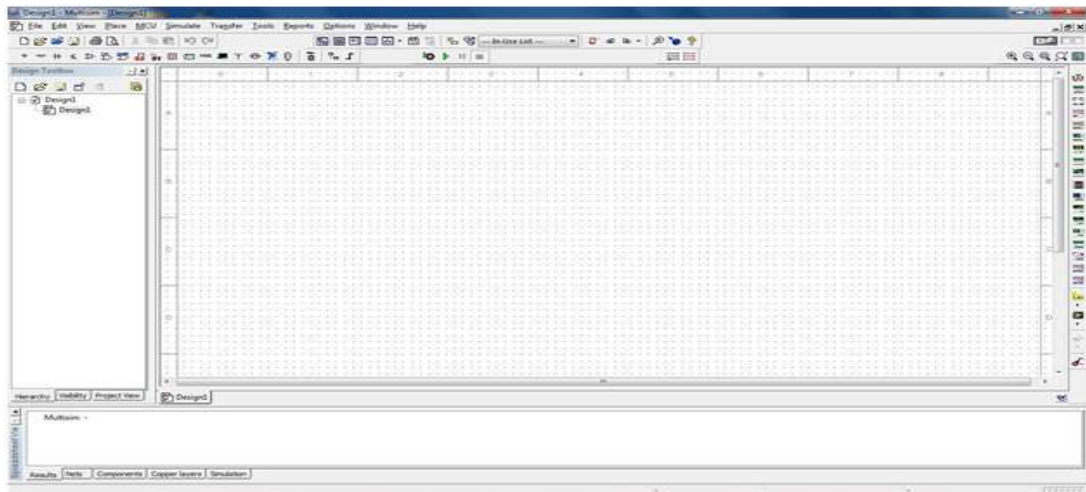

Figure 1: Basic workbench screen
1. After logging into the computer, open Multisim. One will be able to see the Basic workbench screen as in Figure 1.